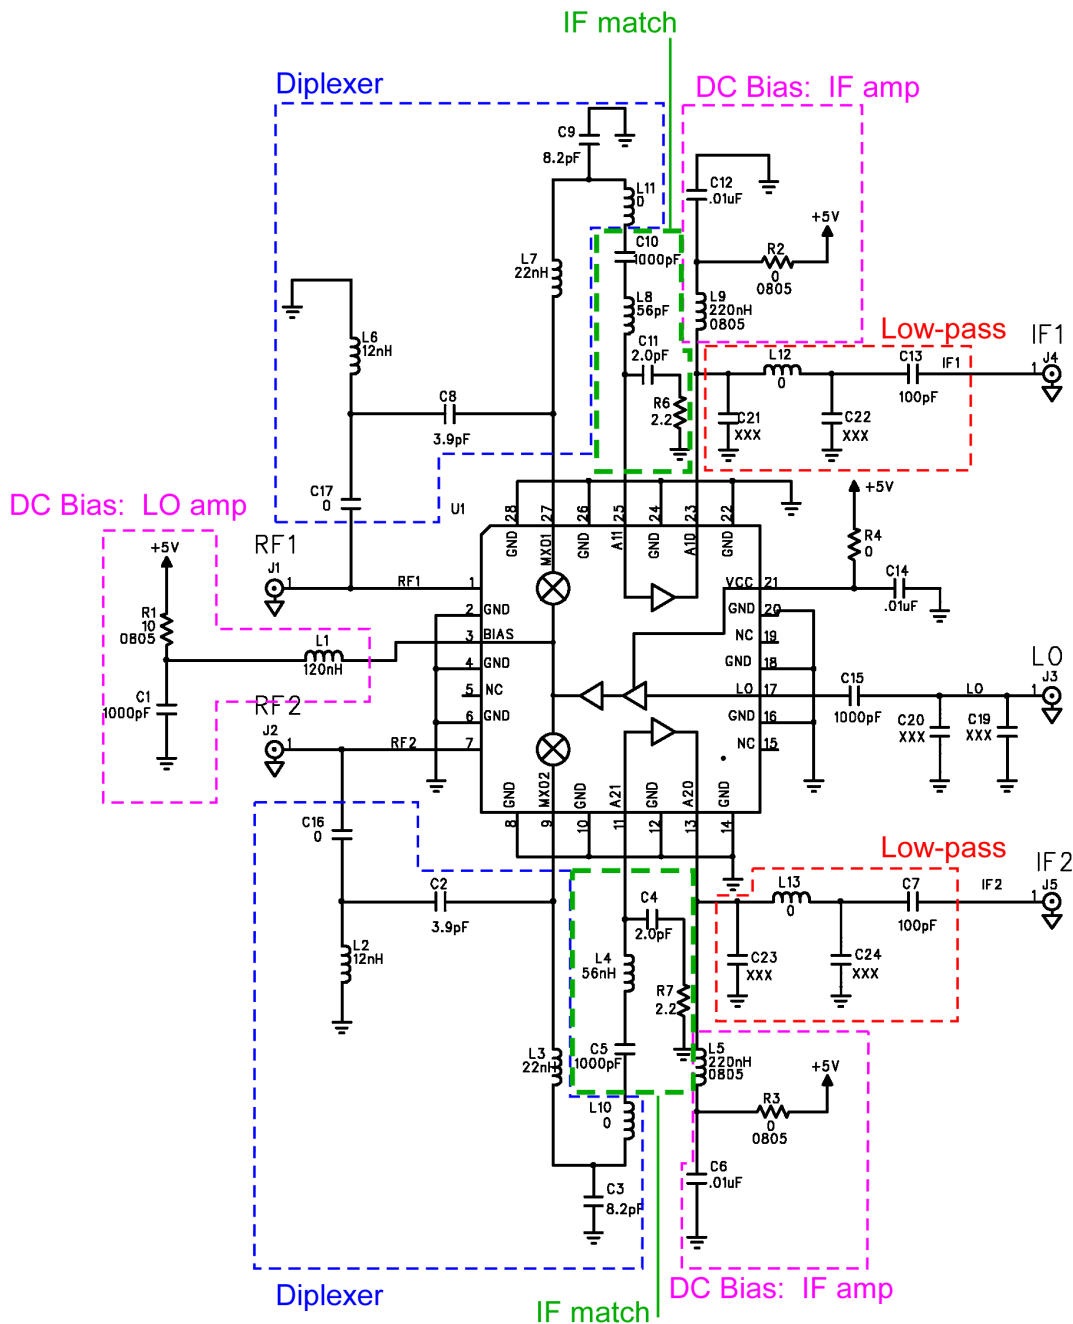

Figure 5. Schematic for the CV210-3 with an IF center frequency of 240 MHz
**CV210-3:** Figure 5 shows the application circuit for the cellular band CV210-3 with an IF center frequency of 240 MHz. The application circuit can be broken up into four functions: diplexing, IF amplifier matching, IF lowpass filtering, and DC biasing.
**Diplexer:** In a downconversion application, the incoming RF signal impinges on the switching elements of the mixer; the interaction with these switches produces a signal at the IF frequency. The two signals (RF and IF) are directed to the appropriate ports by the external diplexer. The CV210-3 uses a four-element diplexer at an IF of 240 MHz. Figure 5 shows the component values for the four element diplexer with 0Ω jumpers for C16, C17, L10 and, L11. A six-element diplexer circuit, utilizing C16, C17, L10, and L11 is required for the CV210-3 when IF frequencies greater than 300 MHz are desired.